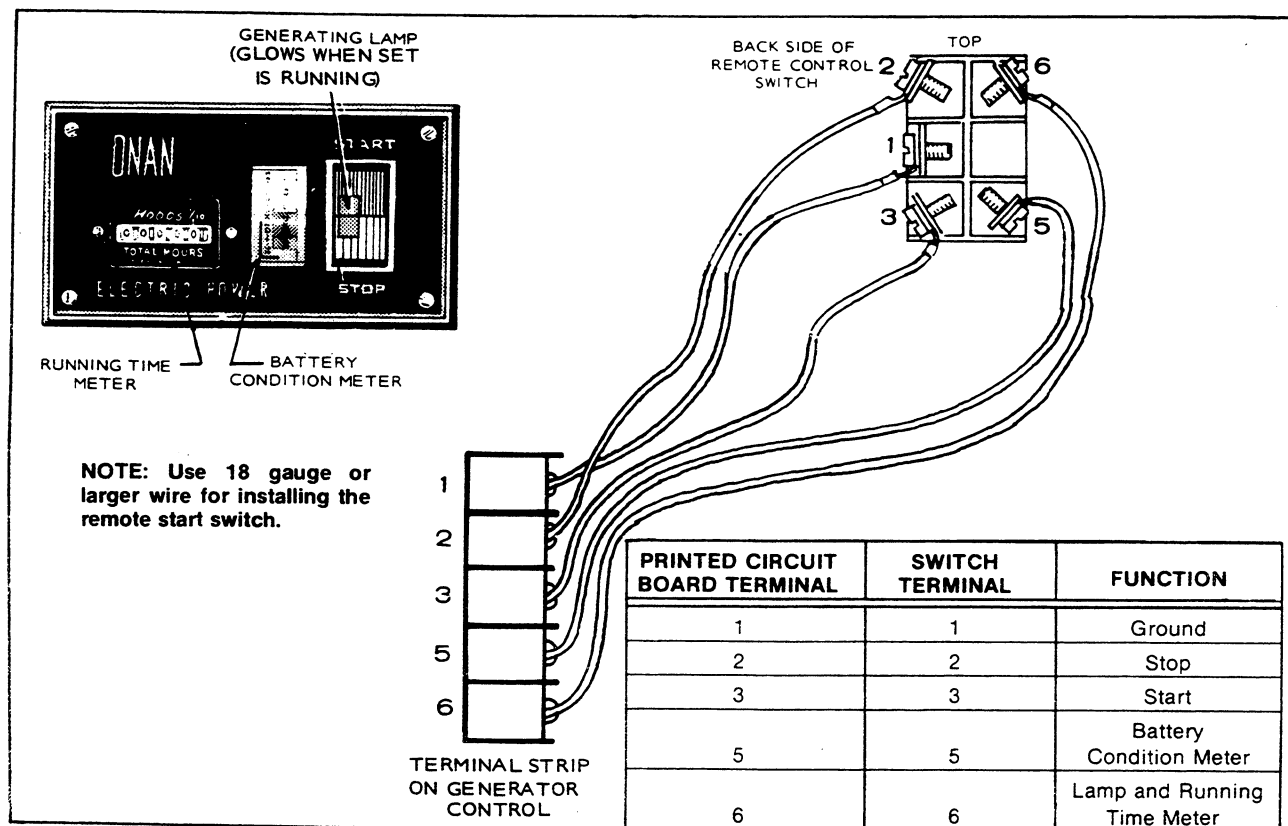

FIGURE 24. DELUXE REMOTE CONTROL
2. Following national and local electrical codes and using five insulated wires of predetermined length (#18 or larger), connect remote control to terminals on generator. Ensure that leads from remote control connect to corresponding terminals on generator terminal board. See Figure 24.